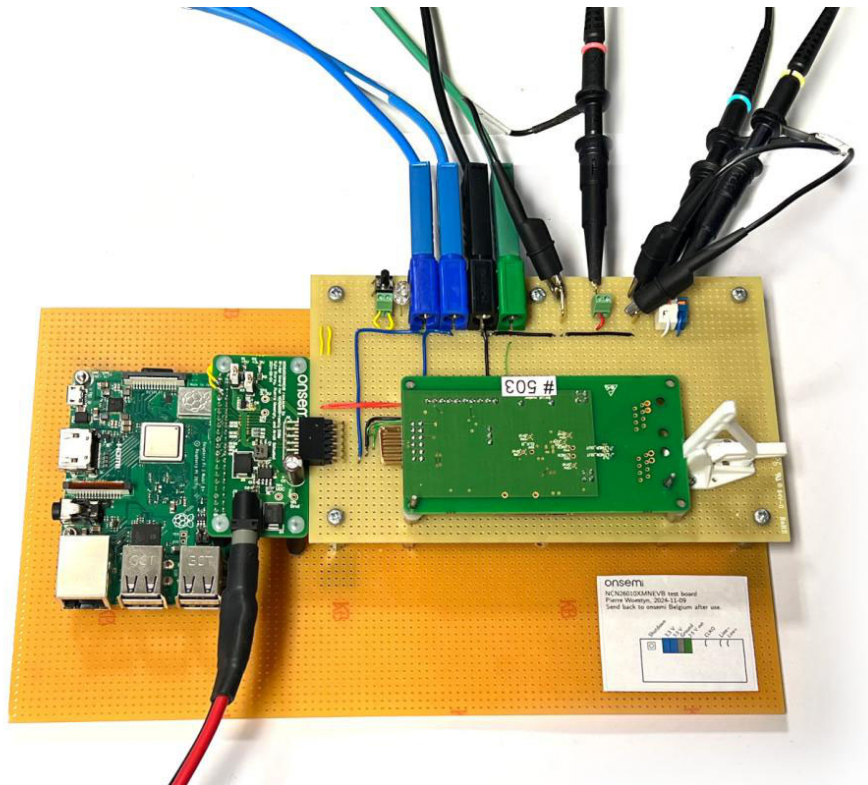

Figure 22. Test Board Connected to the Measurement Instruments
2. Connect the three oscilloscope probes as shown in Figure 22.
5. Connect the test board to two 5½ -digit or better multimeters as shown in Figure 22.
11. Verify the DIO0 LED (yellow) and DIO1 LED (green) on the EVB blink alternately at about 2 Hz. Unfortunately these LEDs are only visible in their reflection on the test board (Figure 22).
12. Verify the blue power LED on the EVB is constantly on. This LED, too, is only visible in reflection (Figure 22).